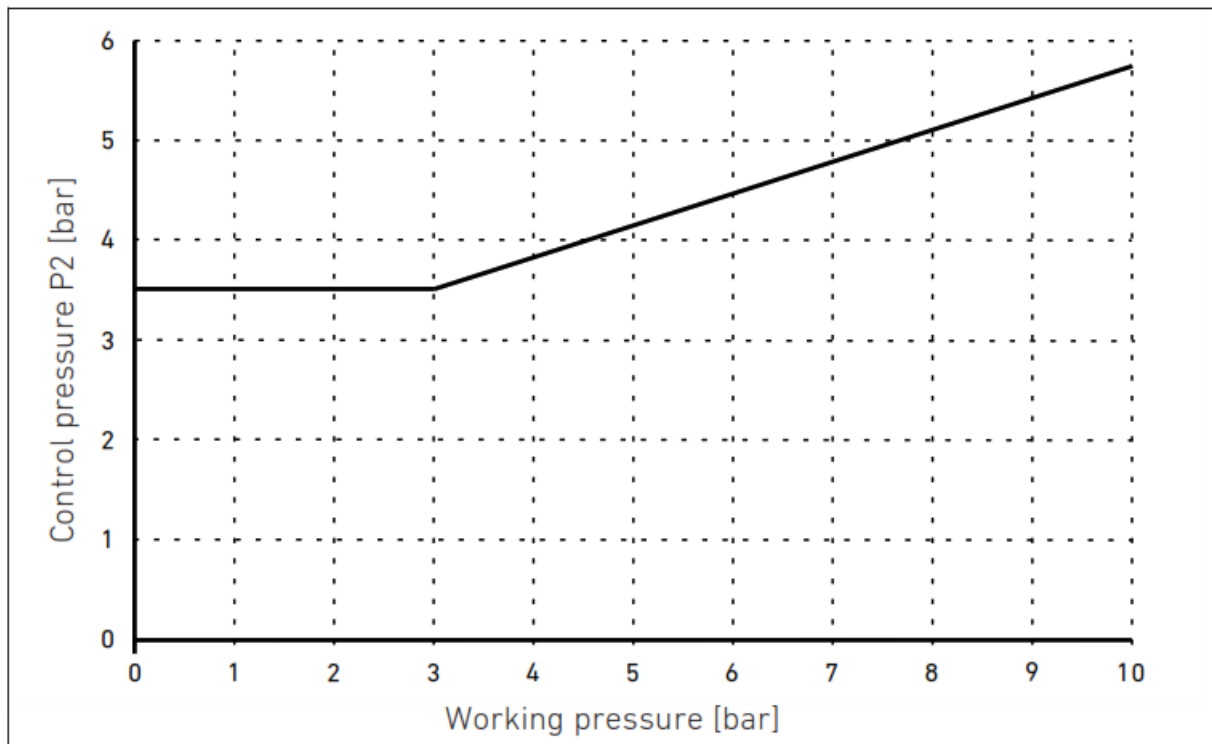

Fig. 12: Working pressure diagram for pneumatically operated shutoff module
- Apply at least the minimum pressure P2 illustrated in Fig. 12., which corresponds with the pressure on connections 2 or 4, to the pilot control connection to operate the shutoff module.